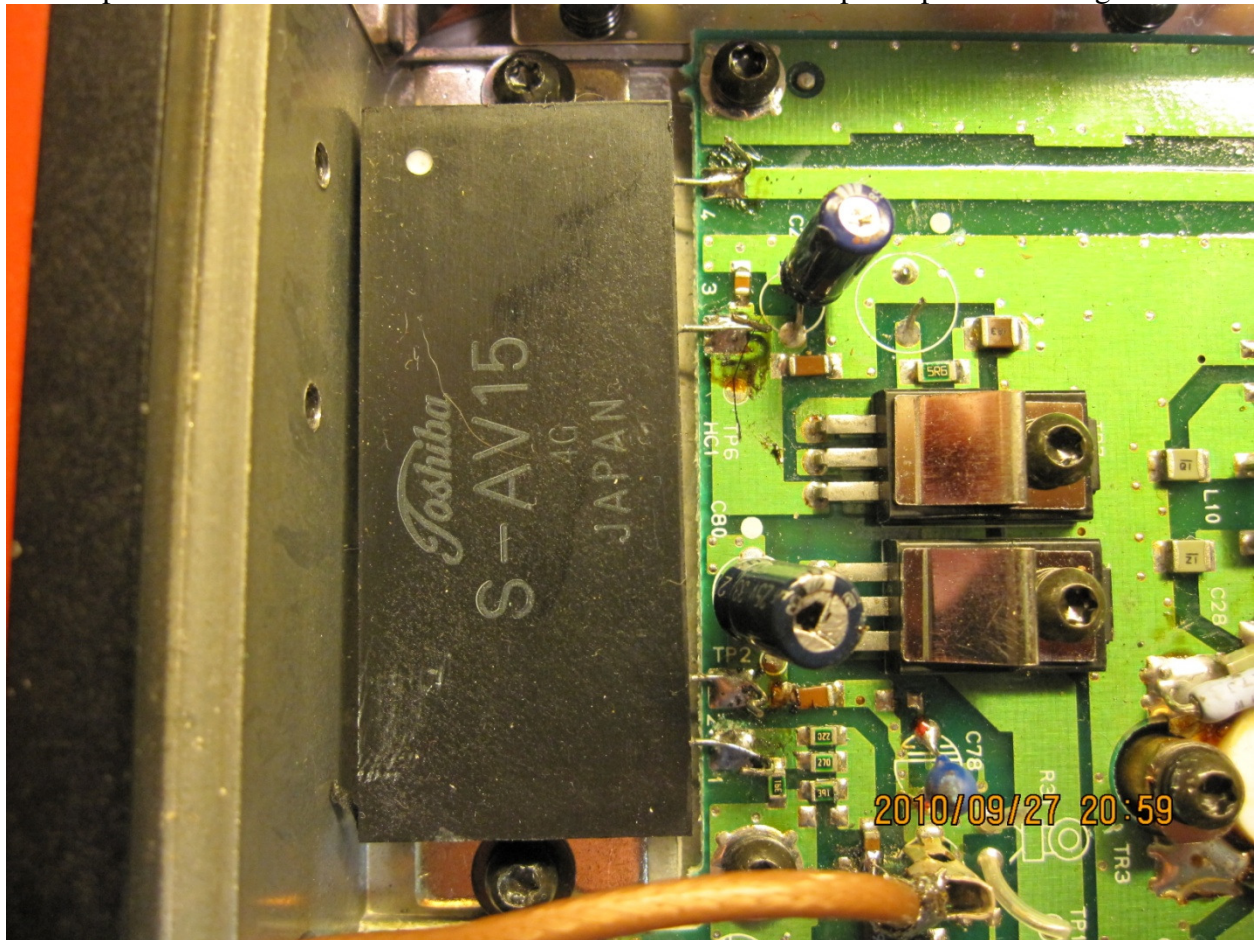

Figure 11, SAV-15 220 power module.
**TRANSMITTER POWER AMPLIFIER:** See figures 11, 12, 13 and 14.
**REMOVE** the original VHF power module, driver HC1, and replace it with a Toshiba SAV-15 or similar power module from RF Parts. The SAV-15 is a direct drop in replacement. Figure 11.